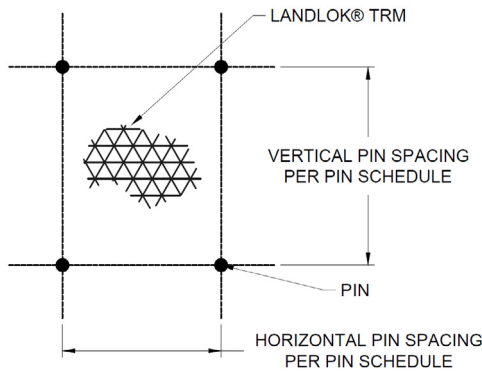
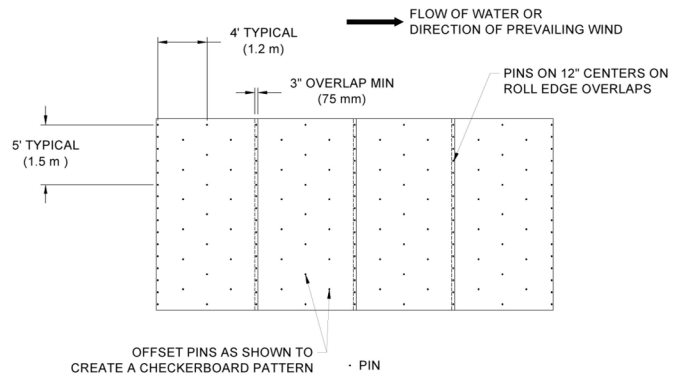
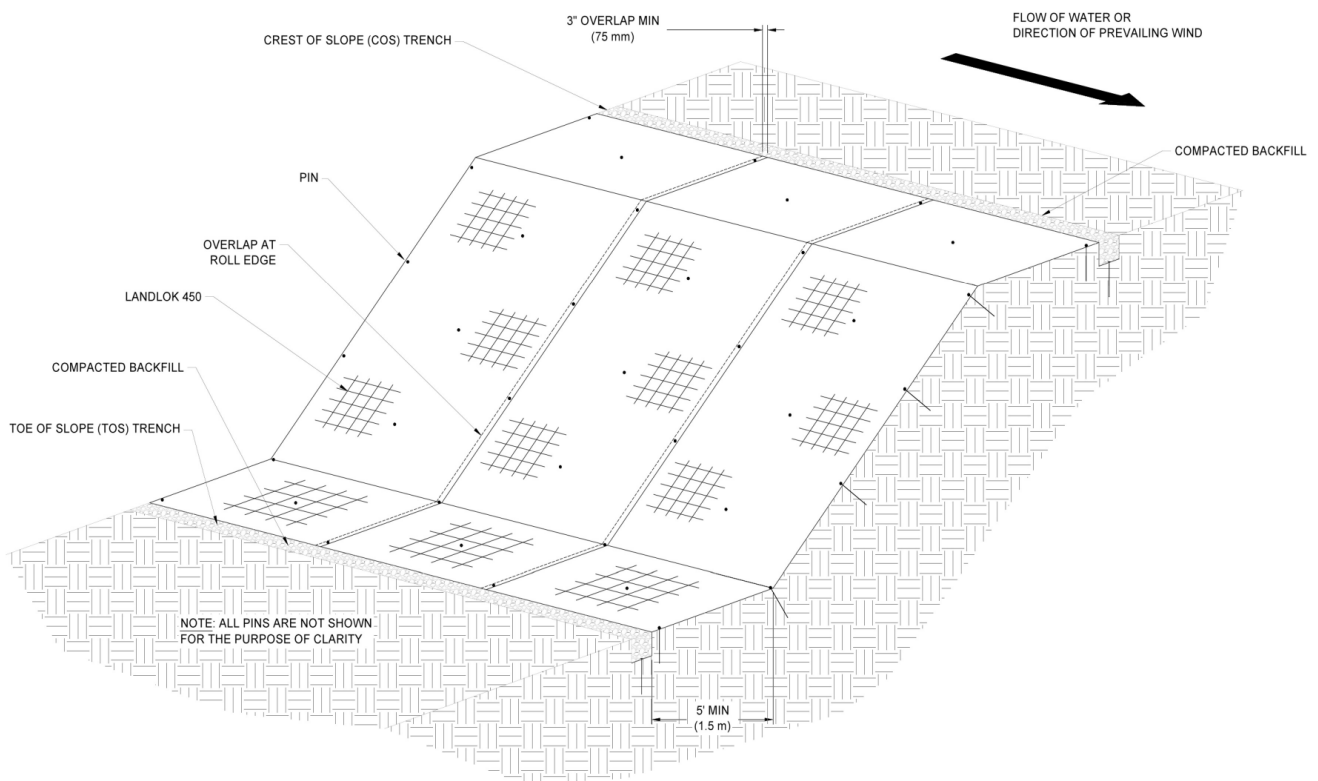

Figure 7: Example Pin Pattern
Figure 8: Example of Panel Overlap
Figure 13: Completed Slope Isometric View
2. Starting at the COS trench, lay **PROPEX** Landlok TRM roll so that the roll ends point towards the crest of the slope (Figure 3), with a 3 in (75 mm) overlap created at adjacent panel edge locations. Ensure that adjacent panel edges maintain a minimum 3 in (75 mm) overlap during **PROPEX** Landlok TRM laydown. (Figure 8)
6. Secure TRM panels in place using pins across the slope surface according to the project's engineered design. Pin placement should reflect a staggered checkerboard pattern across the slope surface for best results (Figure 7 and Figure 8).
- Roll edges shall be overlapped a minimum of 3 in (75 mm) and a maximum of 6 in (150 mm) with pins placed on 12 in (300 mm) centers (Figure 8).
9. Continue to work down the length of the slope by repeating steps 1 through 8 overlapping each adjacent TRM panel by 3 in (75 mm) (Figure 8). The last TRM panel should terminate on the Slope Armoring Edge (SAE) with pins on 12 in (300 mm) centers. At a minimum, TRM panels should be pinned entirely across the slope surface, pins should be installed in the trenches, and the trenches should be backfilled and compacted at the end of each day to minimize rework in the case of a major rain event. Specific project conditions may warrant further evaluation of installation order for ease. An example isometric view (Figure 13) of a slope armored with **PROPEX** Landlok TRM can be seen below for overall reference. Consult Solmax Engineering Services at [smatch@solmax.com](mailto:smatch@solmax.com) or 706-693-2226.